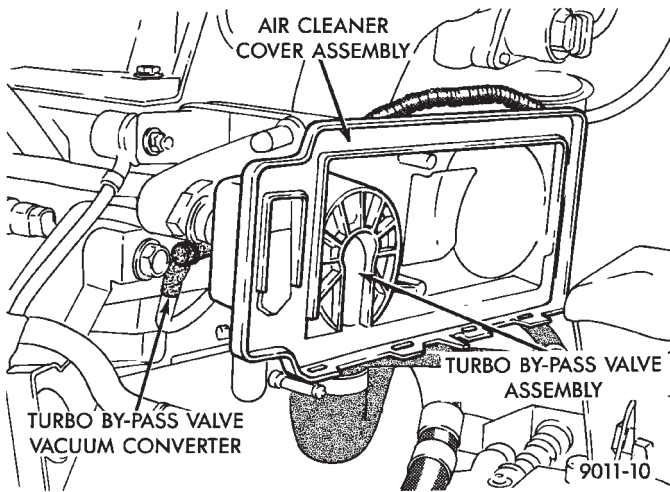
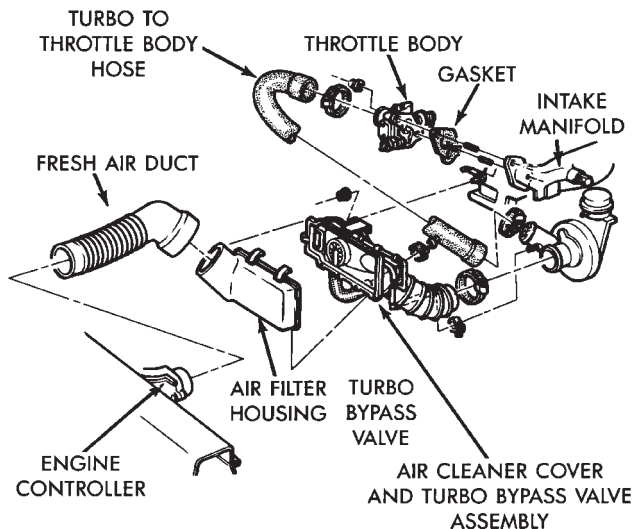

Fig. 10 Turbo Air Cleaner Bypass Valve
Fig. 11 Bypass Valve and Air Cleaner Assembly
- (1) Remove vacuum hose from valve.
- (2) Apply 15 in. Hg of vacuum to valve. If vacuum holds, bypass valve OK (Fig. 10). If vacuum leaks replace air cleaner assembly (Fig. 11).